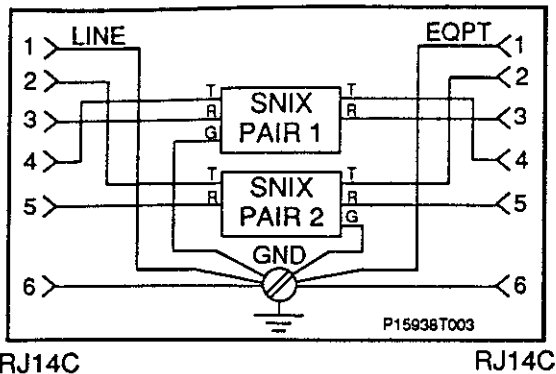

Figure 10: Duplex Jack Model SNIX
5.03 A two pair duplex SNIX designed for indoor use is offered with two RJ14C modular telephone line jacks. One jack is designated as the "line" and the other as "eqpt." T and R of the SNIX Pair 1 are wired to pins 3 and 4 of the jacks. T and R of Pair 2 are wired to pins 2 and 5. The ground path of each SNIX is connected to a "G" screw terminal, as are the conductors for pins 1 and 6. An external low impedance ground connection must be made to this ground terminal or pins 1 or 6 for the SNIX to perform properly. See Figure 10.